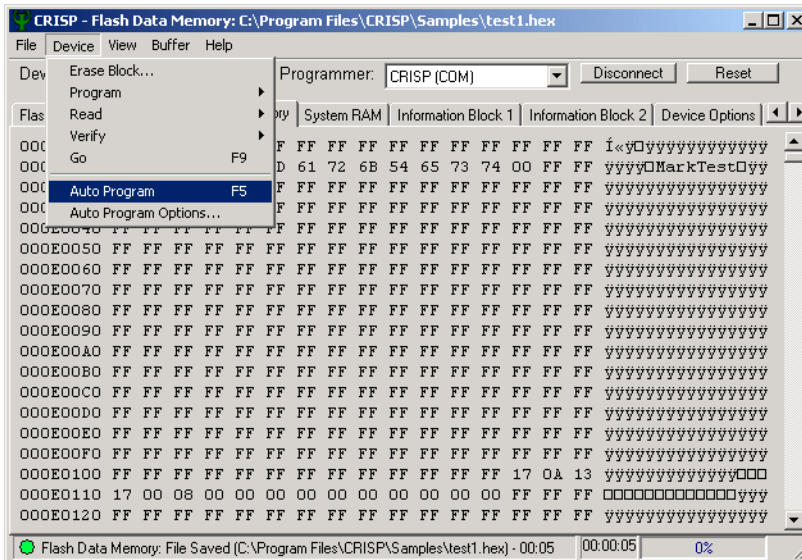

Figure 6-21. Selecting the Auto Program Command
4. **Invoke "Single Click" Programming.** Select the Device -> Auto Program command, as shown in Figure 6-21.